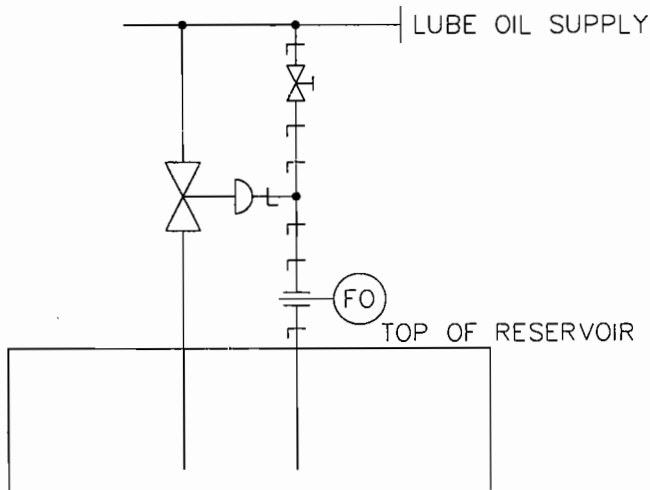

Figure 12. Pressure Control Valve with External Pilot Vented to Reservoir.
- Pressure control valves can be equipped with a pilot operated actuator. A needle valve and orifice are plumbed into the circuit, per Figure 12, to maintain temperature of the oil in the actuator.